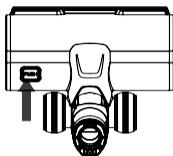

Figure 20
- (1) Turn off the power and remove the electric brush.
- (2) Flip the brush and turn the lock button on the fixed cover with a coin to open the lock. (Figure 20)